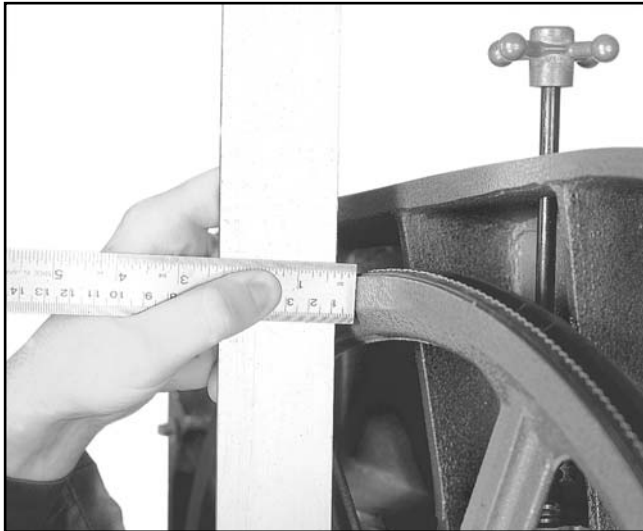

Figure 30. Measuring wheel difference.
1. Adjust the tracking knob so the top wheel is parallel with the bottom wheel. With the straightedge touching both points of the wheel that does not need to be adjusted, measure the distance away from the incorrect wheel with a fine ruler. See **Figure 30.** The distance you measured with the ruler is the distance the wheel must be corrected.